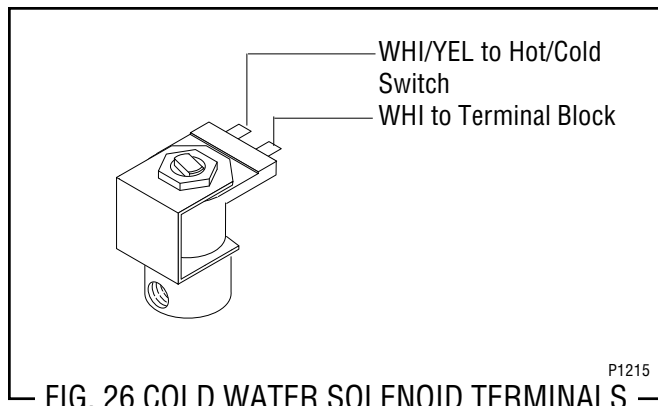

FIG. 26 COLD WATER SOLENOID TERMINALS
9. Refer to Fig. 26 when reconnecting the wires.
8. Refer to Fig. 26 when reconnecting the wires.